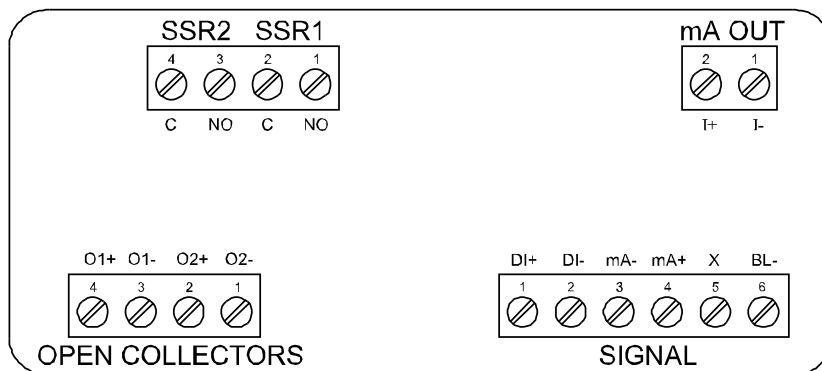

Figure 4. Connector Labeling for Fully Loaded Meter
Signal connections are made to a six-terminal connector labeled SIGNAL on Figure 4. The following figures show a 4-20 mA current loop connected to the meter. The first figure shows the connection without the backlight and the second shows the connection with the backlight (the backlight can be disabled/enabled in the **SYSTEM** menu). The meter is powered by the 4-20 mA current loop. There are no switches or jumpers to set up for the input. Setup and programming is performed through the front panel buttons or PC-based software.
Relay connections are made to a four-terminal connector labeled SSR1 and SSR2 in Figure 4. Each relay's C terminal is common only to the normally open (NO) contact of the corresponding relay.